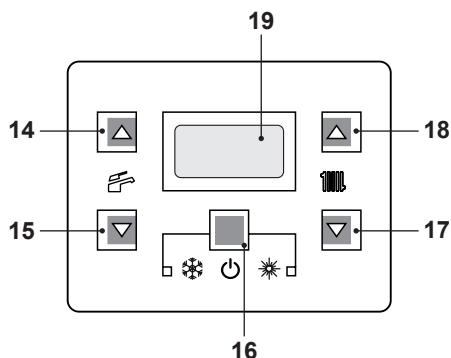
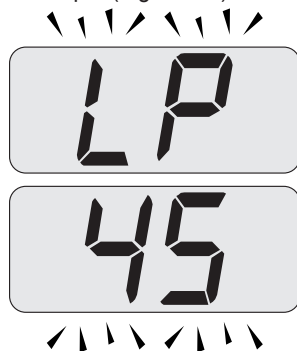
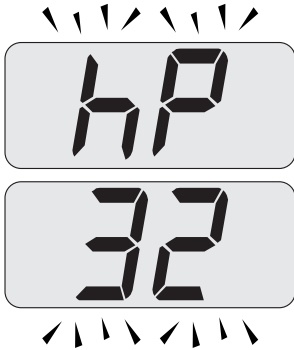
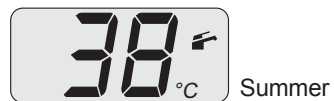

Fig. 10.18
Fig. 10.20
Fig. 10.21
Fig. 10.24
- Enter in "programming mode" by sequentially pressing and holding in keys, 16 - 17 and then 18 (Fig. 10.18) for 10 seconds until the letters **Pr** that alternate with the heating water temperature value (e.g. **45**), indicating the activation of the "flue sweep function" at minimum output (Fig. 10.20).
- Press keys 17 and 18 (Fig. 10.18) at the same time until the LCD display displays the letters **LP** that alternate with the heating water temperature value (e.g. **45**), indicating the activation of the "flue sweep function" at minimum output (Fig. 10.20).
- By pressing 18 (Fig. 10.18) it is possible to change power in flue sweep mode: with the letters **hP** on the LCD display which alternate between the heated water temperature (i.e. **32**), we are in the "flue sweep function" at the minimum power during heating (Fig. 10.21).
- Press sequentially keys, 16 - 17 and then 18 (Fig. 10.18) and hold in for 10 seconds to exit the "flue sweep mode" and return to the previously set boiler status (Fig. 10.24).